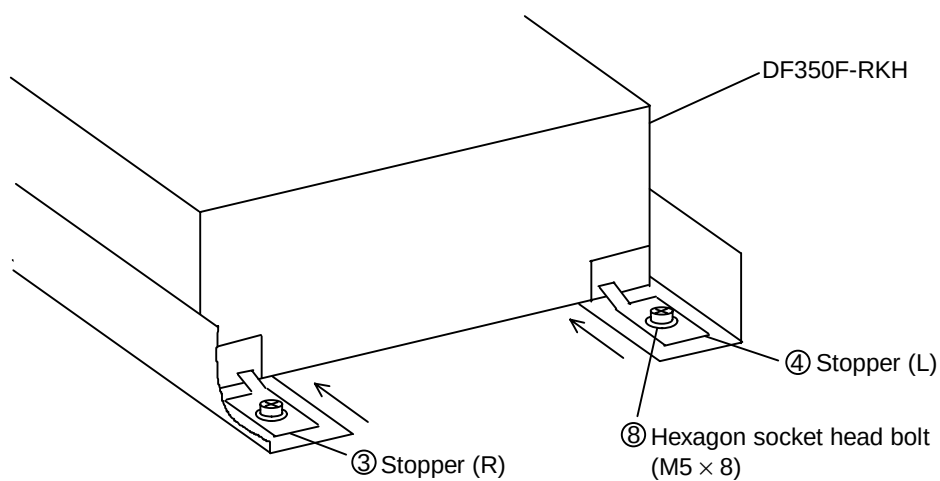

Figure 3.4.7 Securing the Rear Side of the Subsystem
3.4.7 Securing the rear side of the subsystem (See Figure 3.4.7.)